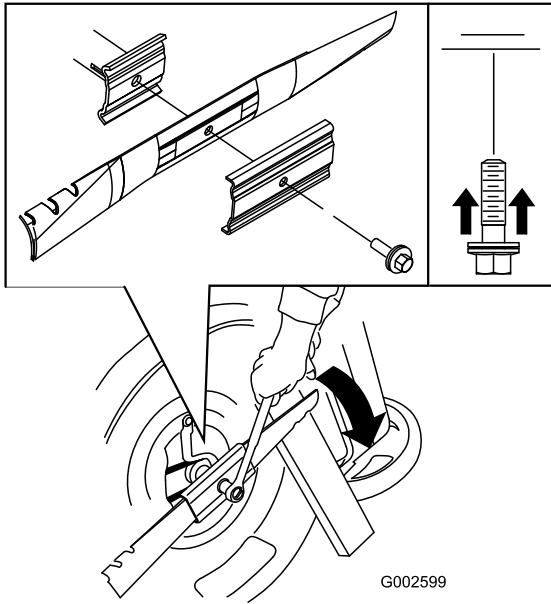

Figure 51
3. Use a block of wood to hold the blade steady (Figure 51).
4. Remove the blade, saving all mounting hardware (Figure 51).
5. Install the new blade and all mounting hardware (Figure 51).